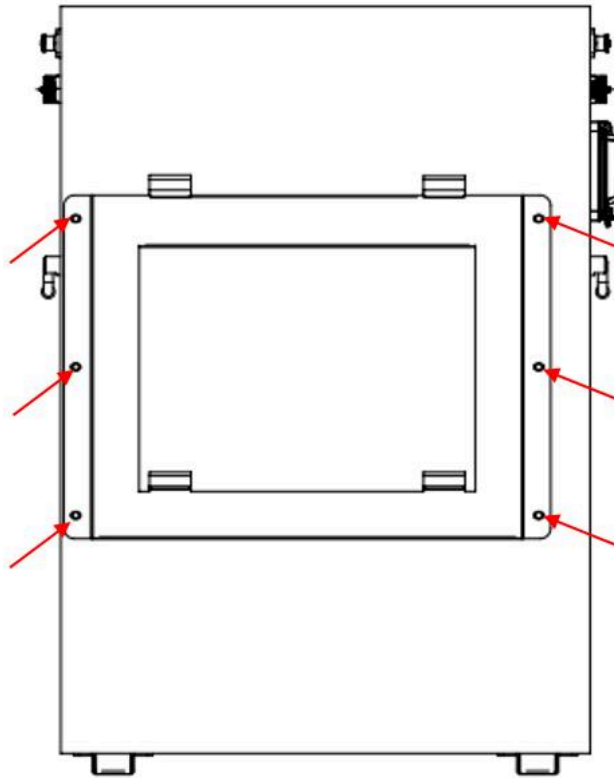

Figure 5-1
a) Use the 6 screws of M6\*12 to fix the backplane to the back of the battery as shown in Figure 5-1.